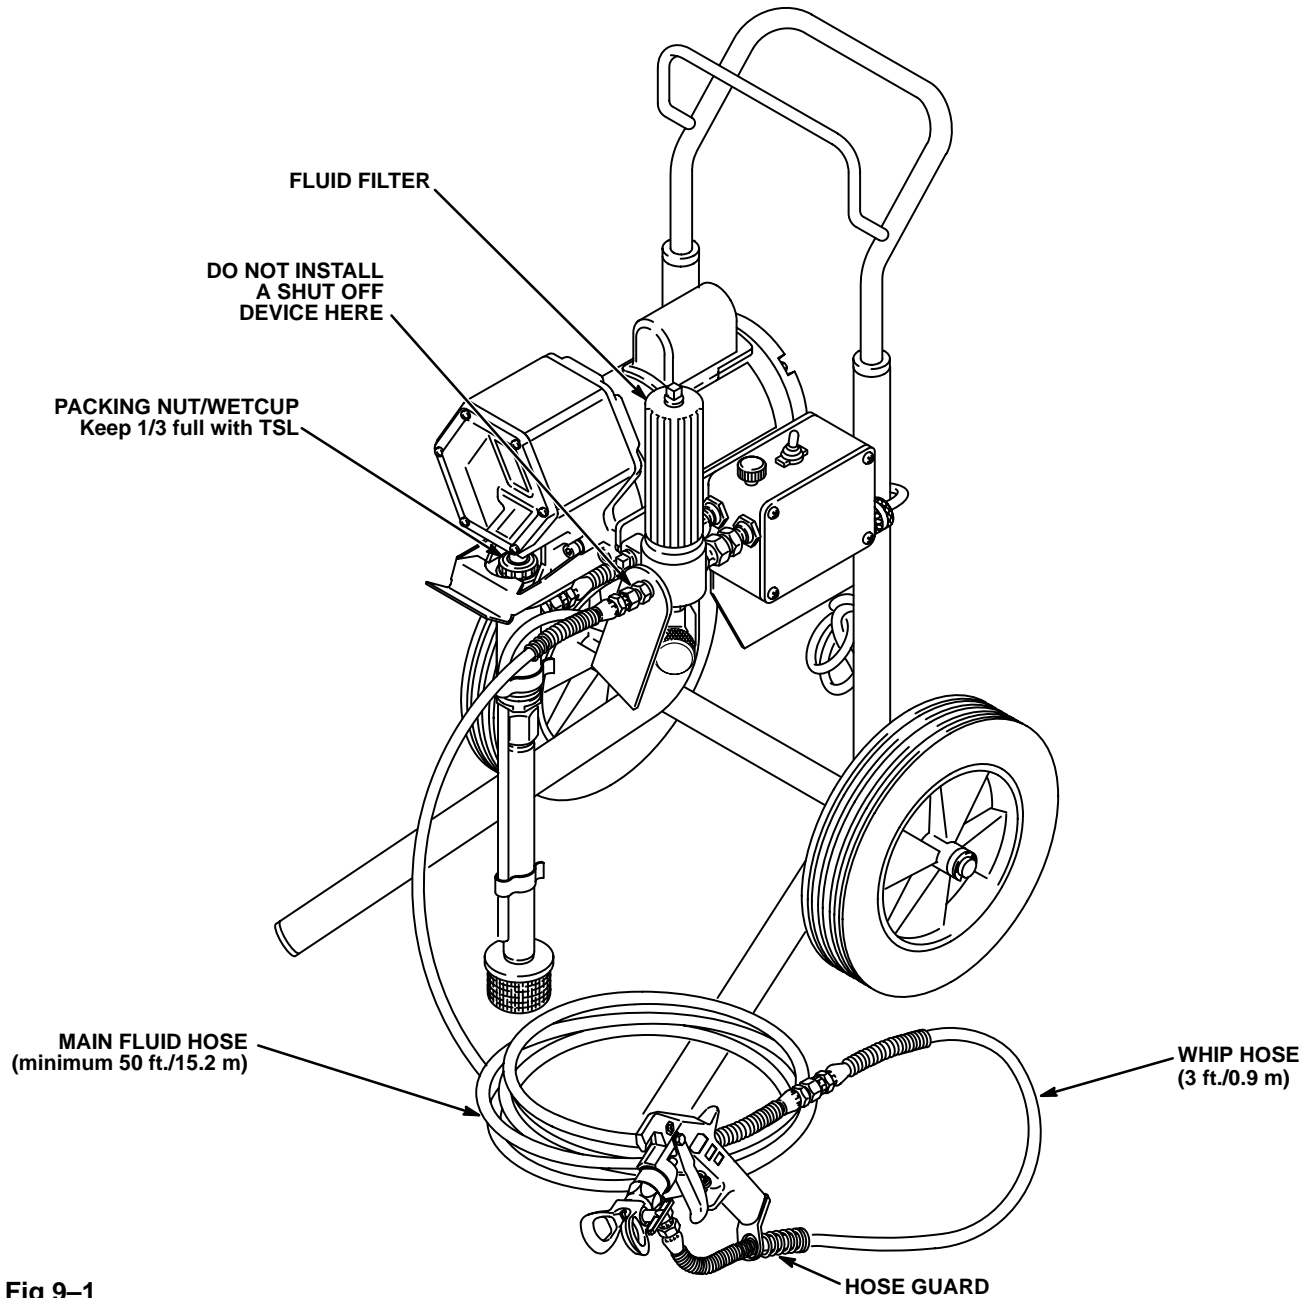

Fig 9-1
3. Never install any shutoff device between the filter and the main hose. See Fig 9-1.
- a. Be sure the ON/OFF switch is OFF. See Fig 9-1.
1. Connect the hose and gun. See Fig 9-1.
2. Fill the packing nut/wetcup 1/3 full with Graco Throat Seal Liquid (TSL), supplied. Remove the plastic plug from the top of the pump first. See Fig 9-1.